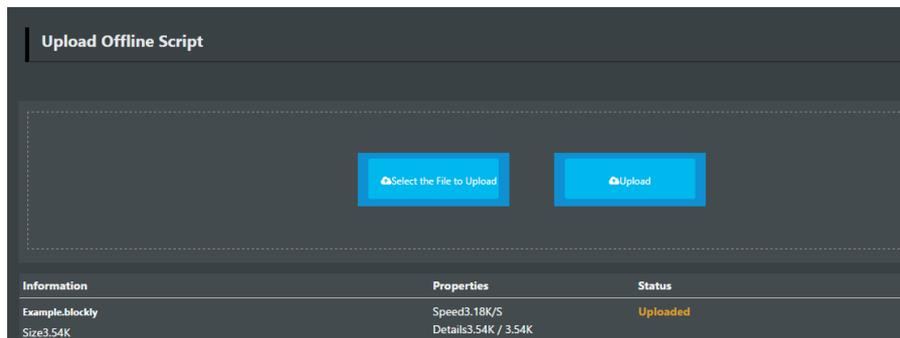

Figure 6.32 Status of Uploading
- Step 7** Click **Upload**. You can view the status, as shown in Figure 6.32.